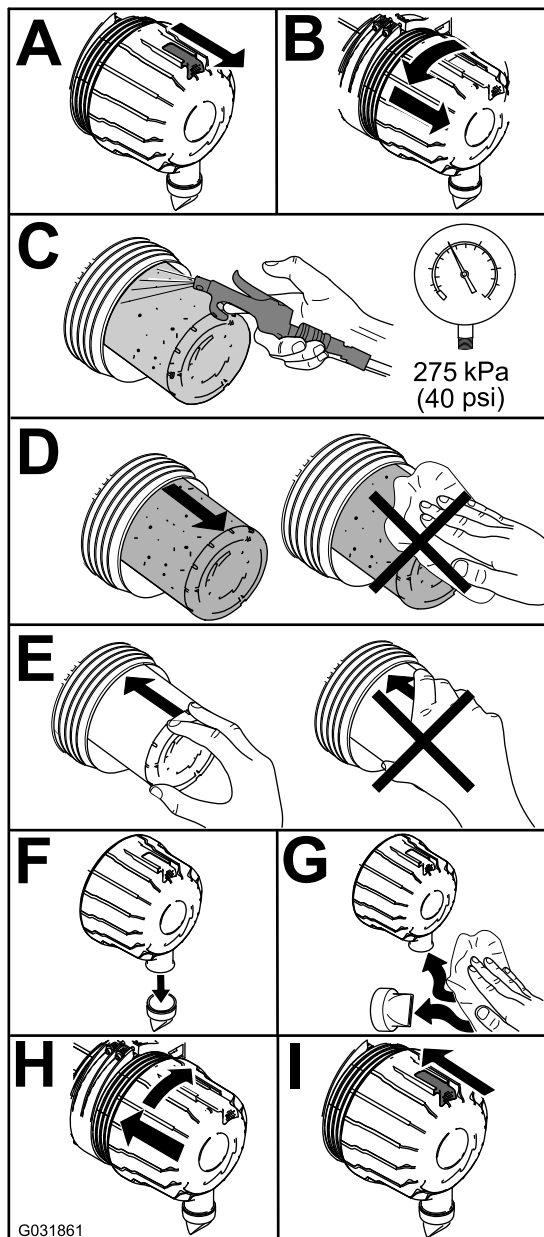

Figure 76
1. Replace the air cleaner (Figure 76).